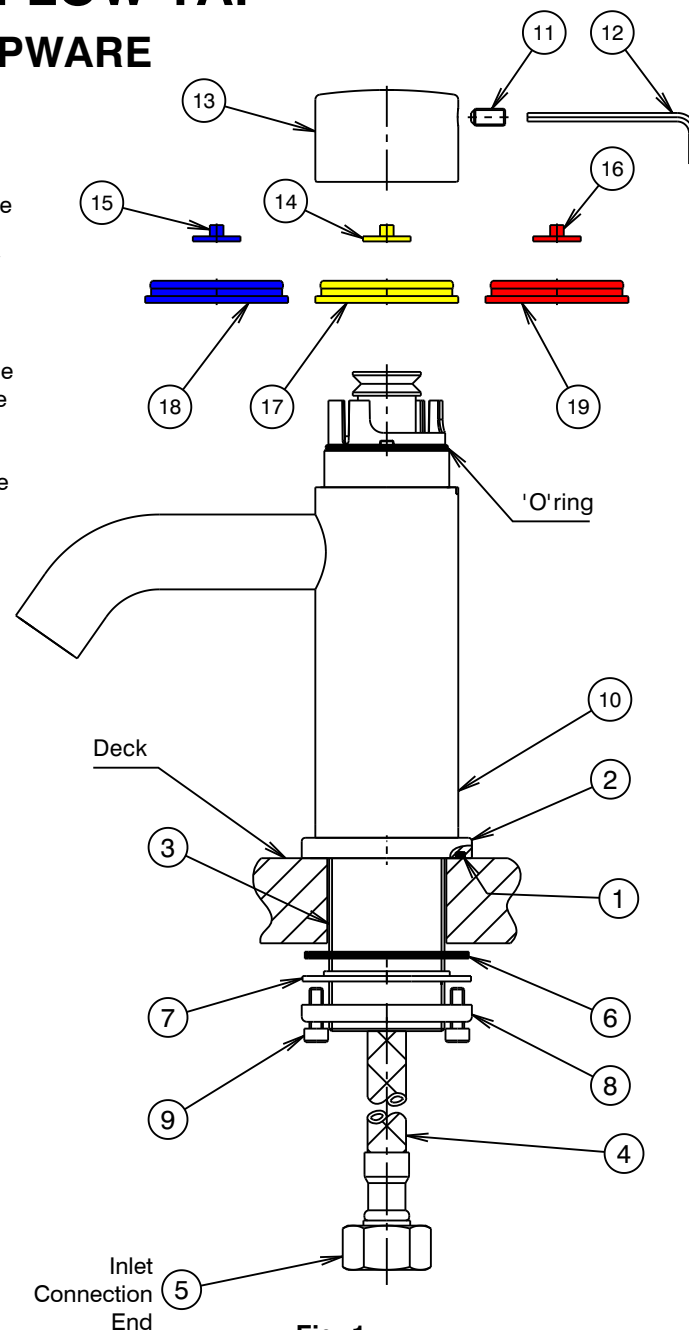

Fig. 1
- 1) From fixing pack fit 'O'ring (1) into groove in base ring (2). Slide the base ring over the threaded tube (3) & locate spigot of base ring (2) into base of tap body (10), as shown.
- 2) Insert the inlet connection end (5) of flexible hose (4) through the hole in the deck. Fit tap (10) into deck hole, fit washer (7) together with flat seal (6) over threaded tube (3) of tap (10) as shown (Fig.1). Screw clamp ring (8) onto threaded tube (3) until it contacts washer (7) & the flat seal (6) has contacted the underside of the deck. Tighten two screws (9) using a 3mm allen key until mixer assembly is clamped firmly to the deck. DO NOT OVERTIGHTEN.
- 3) Connect the flexible hose (4) to the isolating stop tap, hand tighten the fixing nut (5) until rubber cone contacts the sealing face of the connection end, then tighten a further one turn to provide a watertight joint.
- 1) Loosen grub screw (11) using the 2.5mm torx key (12). Remove handle (14) fitted with yellow bottom indicator (17).
- 2) Remove yellow top indicator (14) from handle (13). Pull yellow bottom indicator (17) out with fingers from handle (13).
- 3) If cold water needed, push blue bottom indicator (18) into handle (13) until indicator completely against underside of handle (13). Fit blue top indicator (15) into handle, ensuring the screw hole at the rear of tap as shown in Fig. 1, then fit handle assembly onto tap (10) up to handle assembly stop. Tighten grub screw (11) using 2.5mm torx key (12).
- If hot water needed, push red bottom indicator (19) into handle (13) until indicator completely against underside of handle (13). Fit red top indicator (16) into handle, ensuring the screw hole at the rear of tap as shown in Fig. 1, then fit handle assembly onto tap (10) up to handle assembly stop. Tighten grub screw (11) using 2.5mm torx key (12).